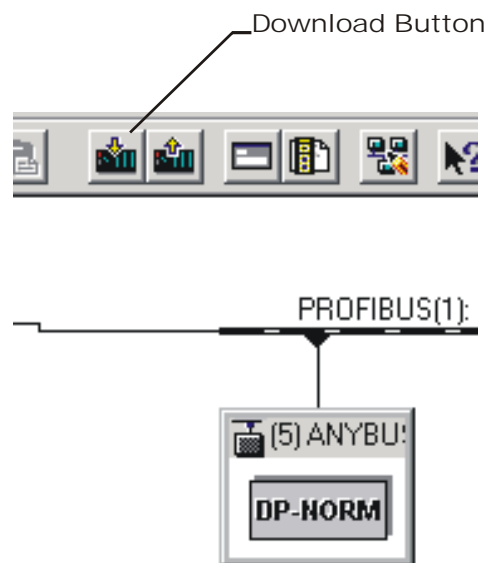
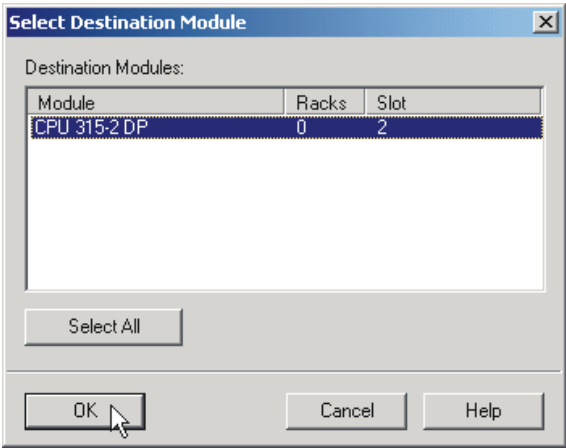

FIG. 145: DOWNLOADING HI 3000 SERIES CONFIGURATION
FIG. 146: SELECT DESTINATION MODULE DIALOG BOX
- Step 12. Click on the Down Load Icon to download the configuration to the PLC. (See Fig. 145) The Select Destination Module dialog box appears. (See Fig. 146)